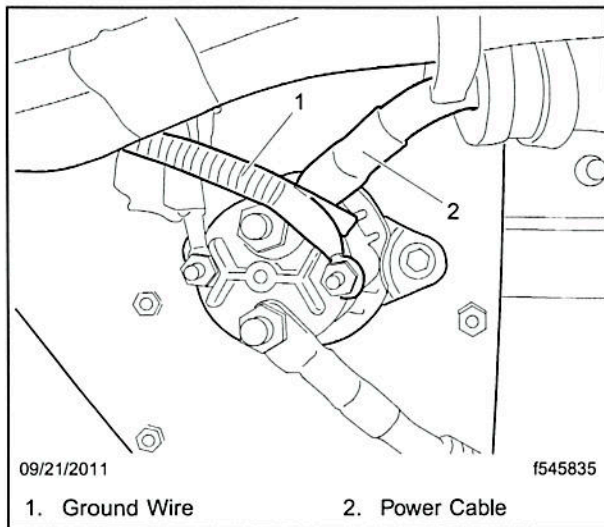

Fig. 1, Ground Wire Touches Power Cable
4. Inspect the wiring on the grid heater relay, located in the top-middle of the firewall. See **Fig. 1**.